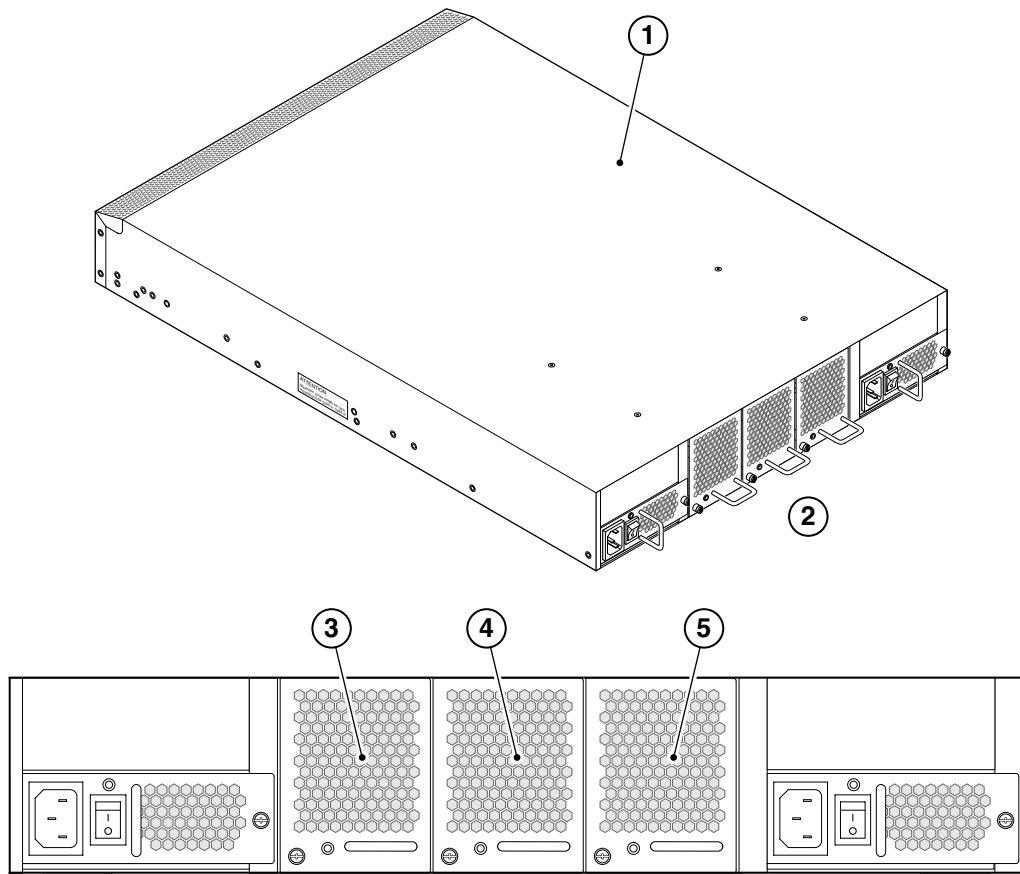

Figure 4-1 DS-4900B fan assemblies on the nonport side
The DS-4900B switch has three fan assemblies as displayed in Figure 4-1. The Fabric OS identifies the fans from left to right as Fan assembly #3, Fan assembly #2, and Fan assembly #1.
5. Optionally, display the fan status using the fanShow command from the CLI (Figure 4-1 on page 4-2 for the locations of Fan assembly #1, Fan assembly #2, and Fan assembly #3).